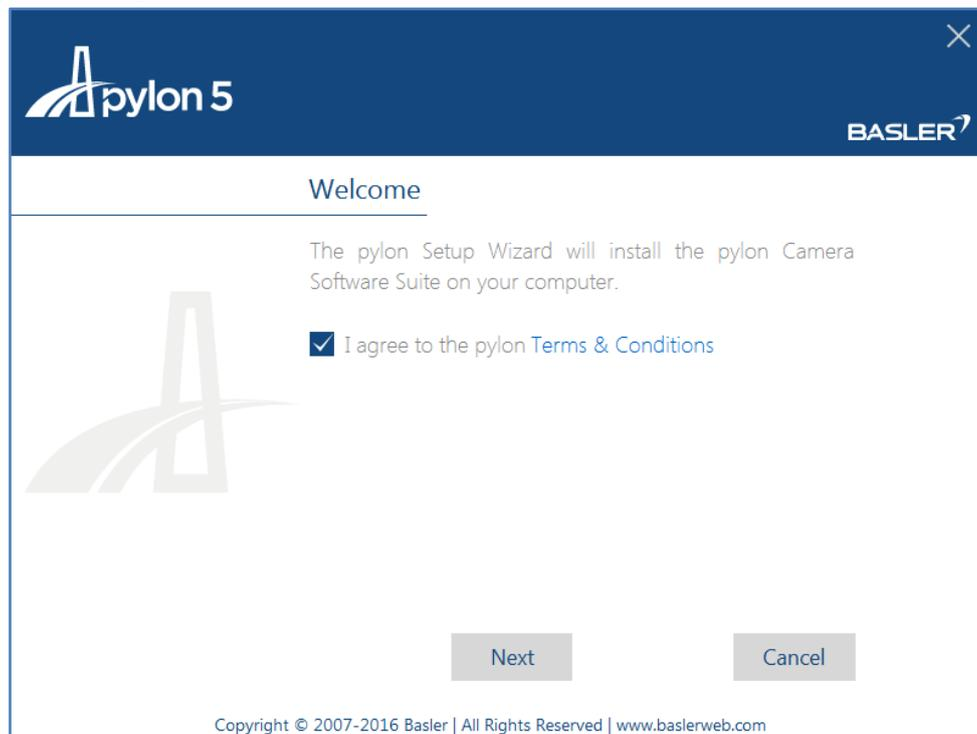

Fig. 1
1. Double-click the Basler camera driver installer "Basler_pylon_5.0.5.8999.exe", the installation interface is shown in Figure 1; tick "I agree to the pylon Terms & Conditions" and click the "Next" button;